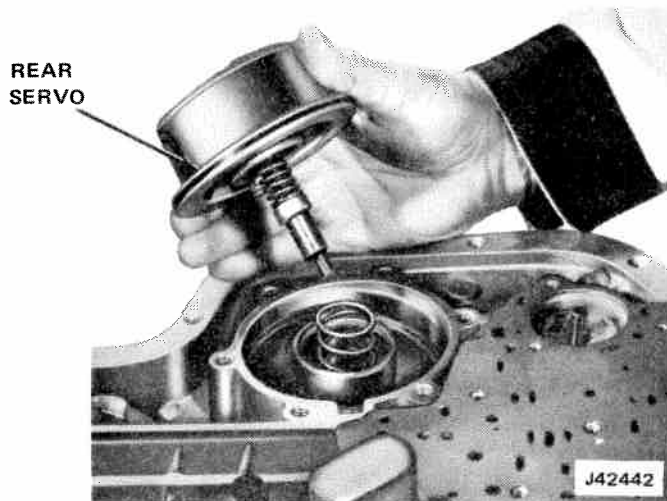

Fig. 7-12 Removing or Installing Rear Servo Assembly
- (2) Remove rear servo assembly from transmission case, as shown in figure 7-12.
- (3) Remove rear servo accumulator spring from transmission case.